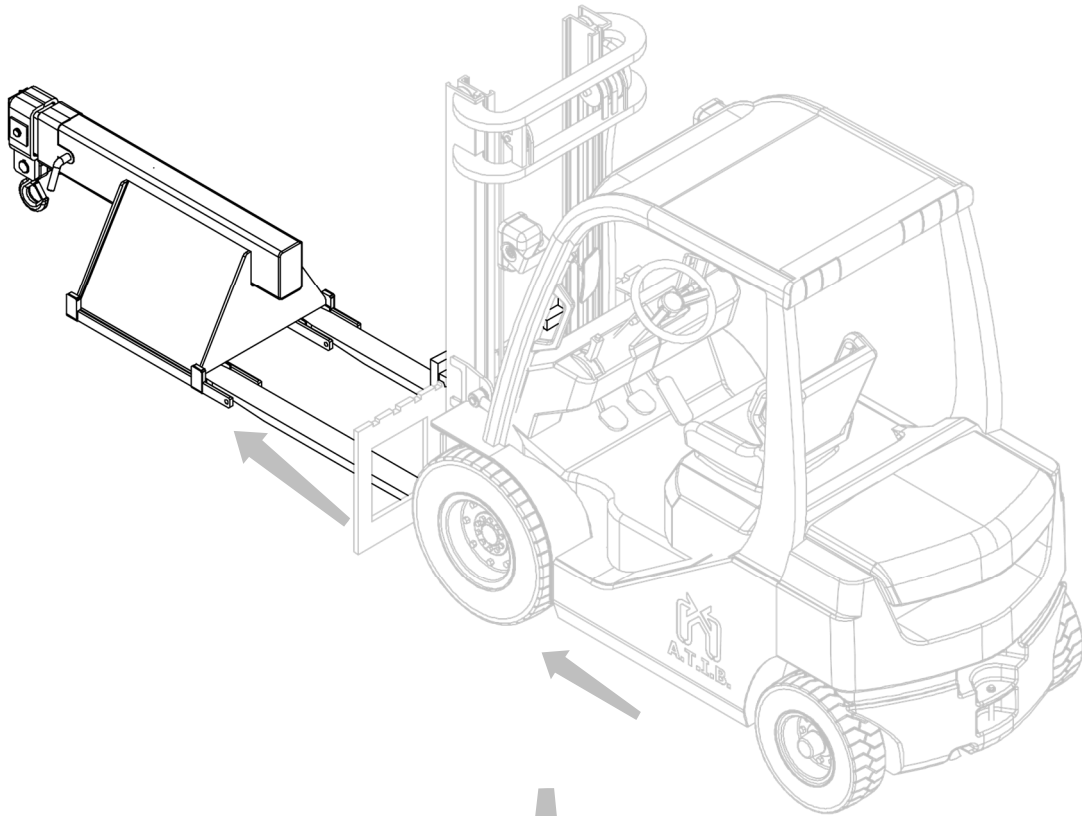
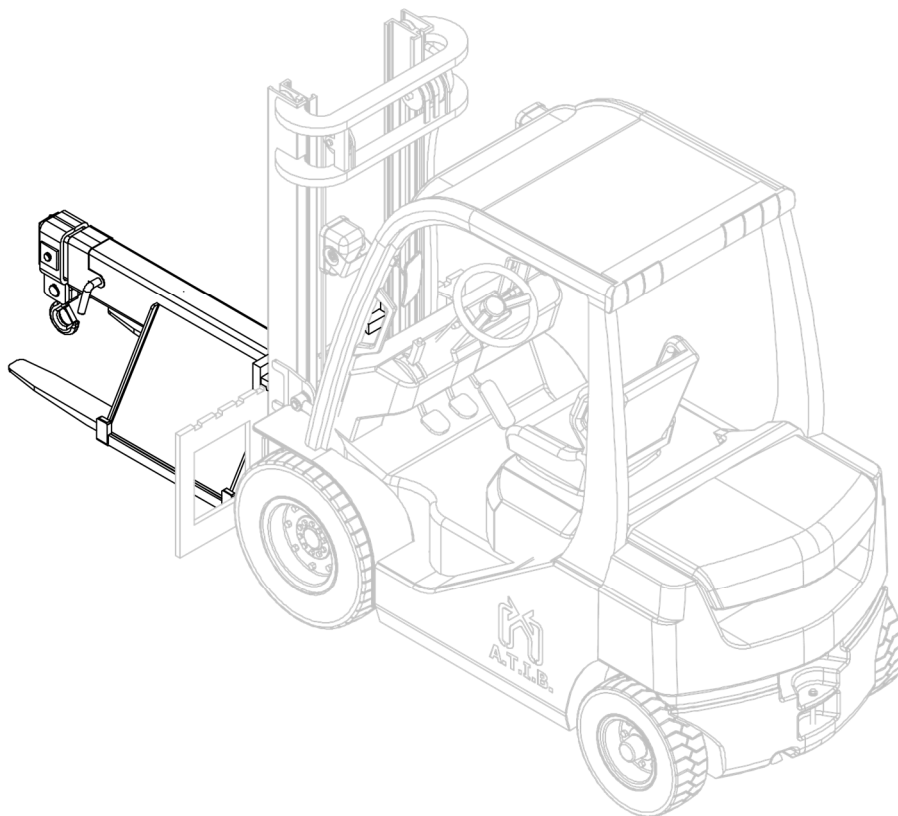

Figure 7
Figure 8
5. Fork the equipment (see *Figure 7* and *Figure 8*).